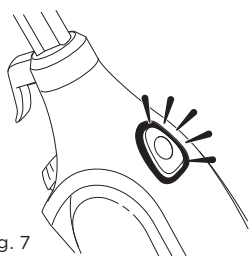

fig. 7
- 7 Press the **STEAM CONTROL** button to select your steam setting. If the light does not turn on, see the Troubleshooting section. (**fig. 7**).